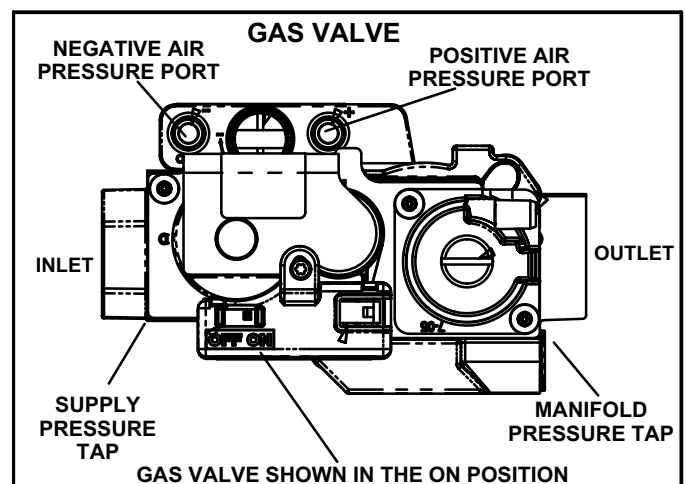

FIGURE 48
Gas Valve Operation (Figure 48)
- 6 - Move the gas valve switch to the **OFF** position. See figure 48.
- 8 - Move gas valve switch to the **ON** position. See figure 48. Do not force.